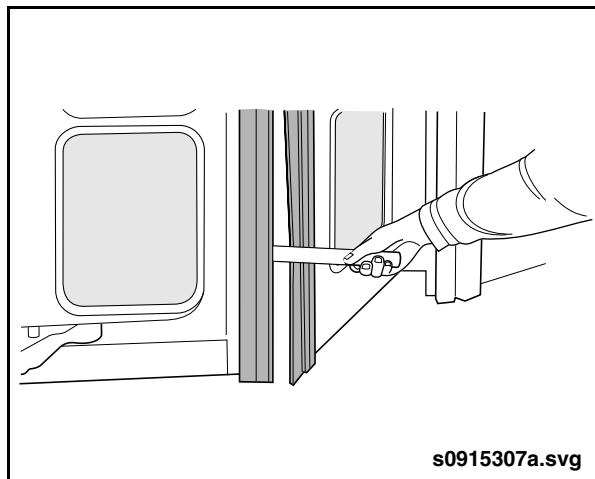

Fig. 16-27: Rod Test
6. Standing outside the vehicle with the door closing, hold a 1 inch diameter rod (hardwood or metal approximately 18 in. (45.72 cm) long) perpendicular to the side of the vehicle at the vertical centerline of the door opening, 12 inches above the bottom of the door panels. See “Fig. 16-27: Rod Test” on page 44.